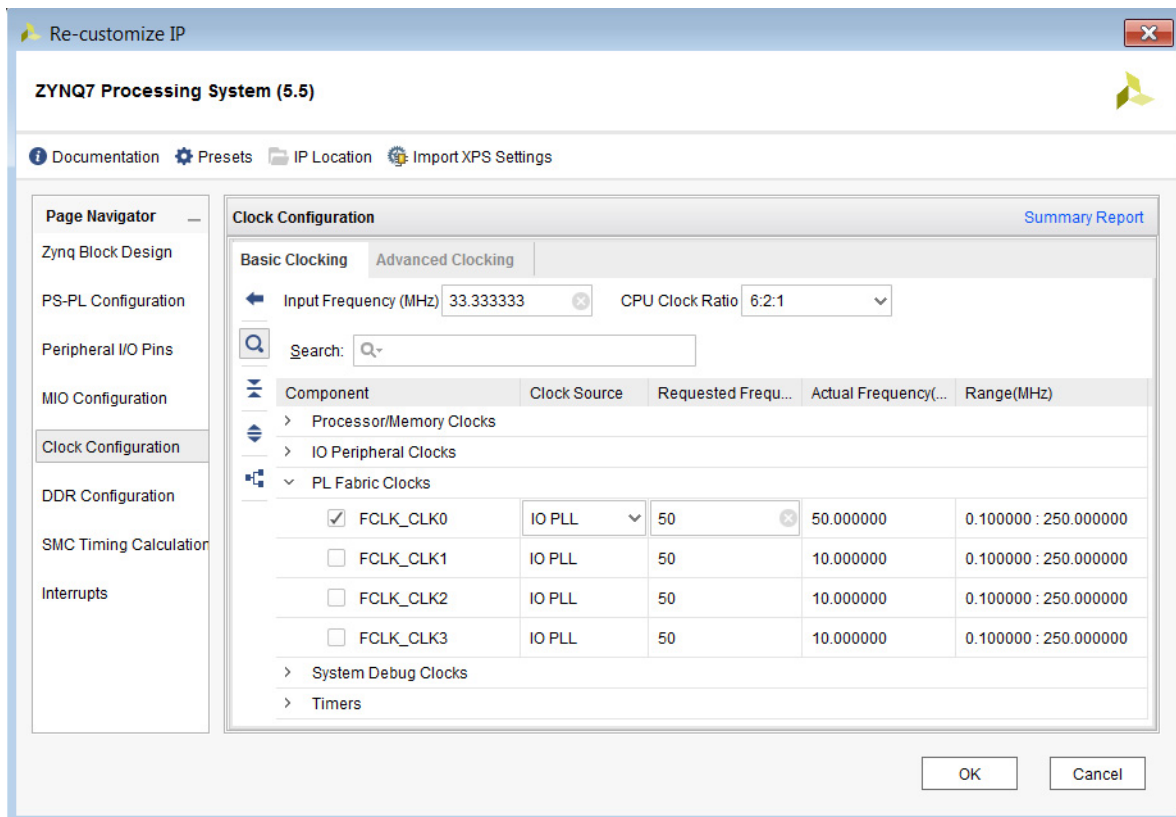

Figure 6-22: Specify the Frequency of the Fabric Clock
4. In the Re-customize IP dialog box, click **Clock Configuration** in the Page Navigator and then expand **PL Fabric Clocks**, as shown in Figure 6-22.